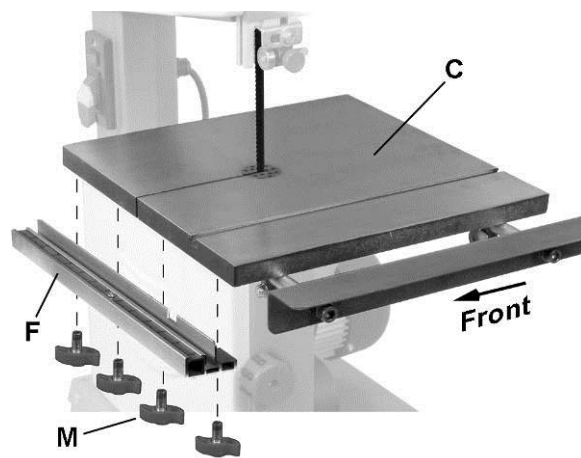

Figure 5
1. Attach the *rail guide* (F, Fig. 5) to the front of the *table* (C). Secure with four *lock knobs* (M).
4. Remove *rail guide* (F, Fig. 5).
11. Replace *rail guide* (F, Fig. 5).